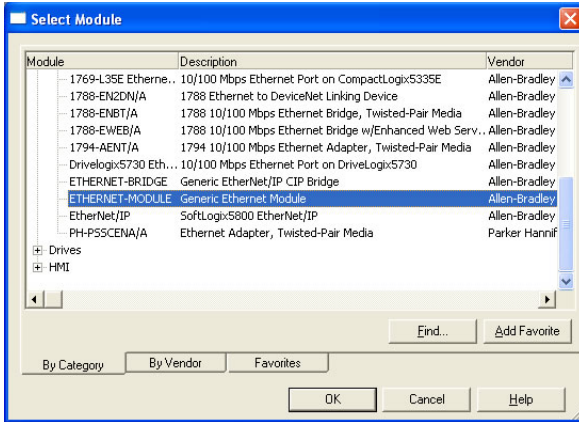

Figure 78: Adding a New Generic Ethernet Module
- 3) Choose "Generic Ethernet Module" in the Select Module dialog box and click "OK". Refer to Figure 78.